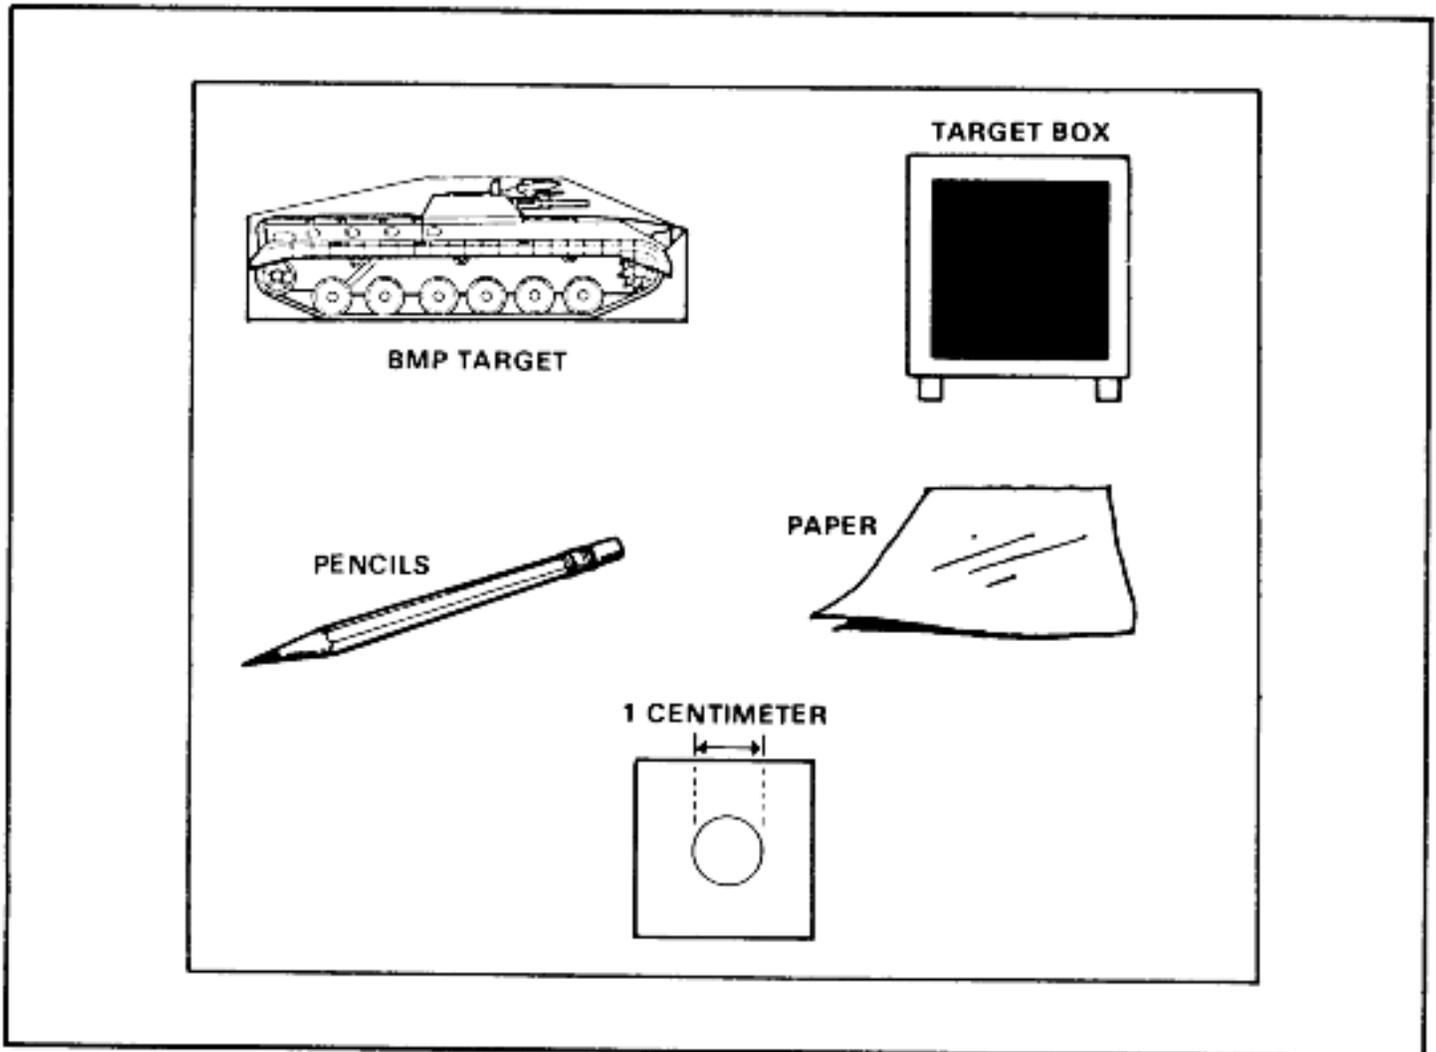

Figure 5-9. MK 19 target board.
(2) The second sighting and aiming exercise, used with the MK 19 and target board, gives the gunner a chance to apply lessons learned during the first exercise. Place the target board (Figure 5-9) 10 meters from the muzzle of the MK 19. Use the T&E mechanism to get the correct sight picture on each target that is called out. When the gunner feels he can sight and aim, the coach checks and critiques the gunner's ability to change from the start point on the target board to any new target called by the coach.